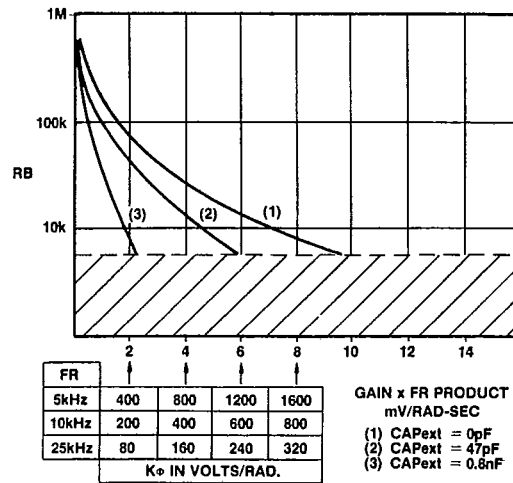

Fig.8 R_B v. gain and reference frequency
R_B and CAP should be chosen to give the required gain at the reference frequency used. Fig.8 shows that to achieve a gain of 380V per radian at 10kHz requires R_B to be approximately 39k Ω , CAP is zero. A hold capacitor (CH) of non-critical value which might be typically 470pF is connected from CH to V_{SS} . A smaller value is sufficient if the sideband performance required is not high.